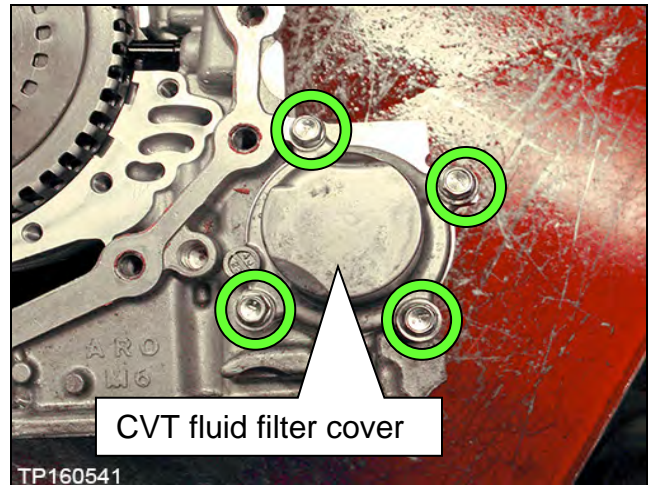

Figure 24C
- a. Remove the 4 bolts and then remove the CVT fluid filter cover (Figure 24C).